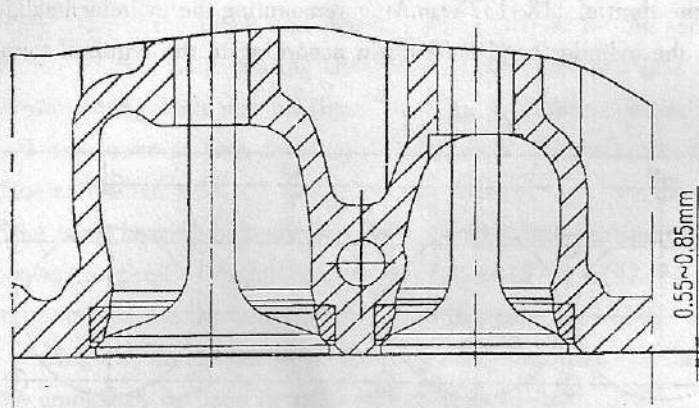

Fig.2-2 Depth of valve surface below the surface of the cylinder head
- ① The width of the seating line is over 2.5mm;
- ② The valve is 1.5mm more below the surface of the cylinder head as shown in Fig.2.2 (For a new engine, it should be 0.55~0.85mm).